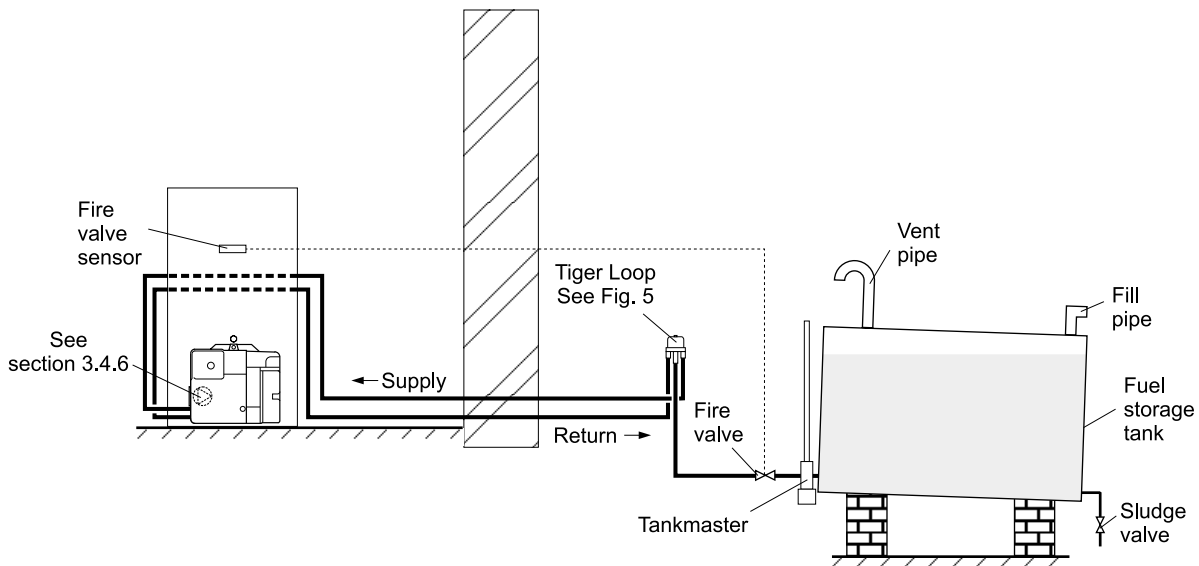

Fig. 4 - Tiger loop system
- 5 A flexible fuel line, adaptor and $\frac{1}{4}$ " BSP isolation valve are supplied loose with the boiler for the final connection to the burner. If a two pipe system or Tiger Loop system is used, an additional flexible fuel line (900 mm) and $\frac{3}{8}$ " to $\frac{1}{4}$ " BSP male adaptor are available from Grant Engineering (UK) Limited.
- 7 The use of a 'Tankmaster' and Tiger Loop is an ideal way of delivering an oil supply to the boiler. The Tankmaster unit, fitted to the storage tank, includes a filter, sight tube, shut-off valve and fire valve. A separate fire valve is required in the fuel line (outside) where it enters the building containing the boiler. See Fig. 4.
3.4.5 Tiger Loop system - (See Figs. 4 and 5)
- 2 The Tiger Loop is connected close to the boiler as a two pipe system (omitting the non-return valve) as shown in Fig. 4. Refer to the manufacturers instructions supplied with the Tiger Loop.